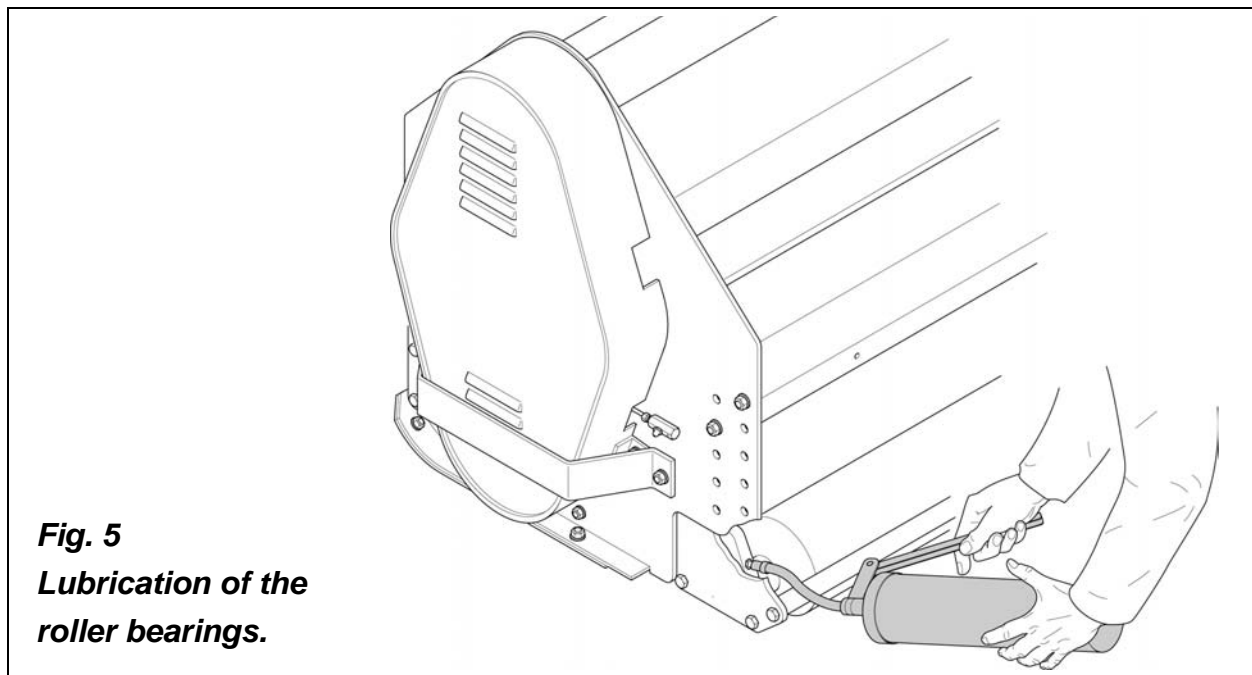

Fig. 5
2. **Lubricate roller bearings (see fig. 5) and rotor support bearings (see fig. 6):** Apply two three shots of grease to the roller bearings and to the rotor bearings on each side of the machine.